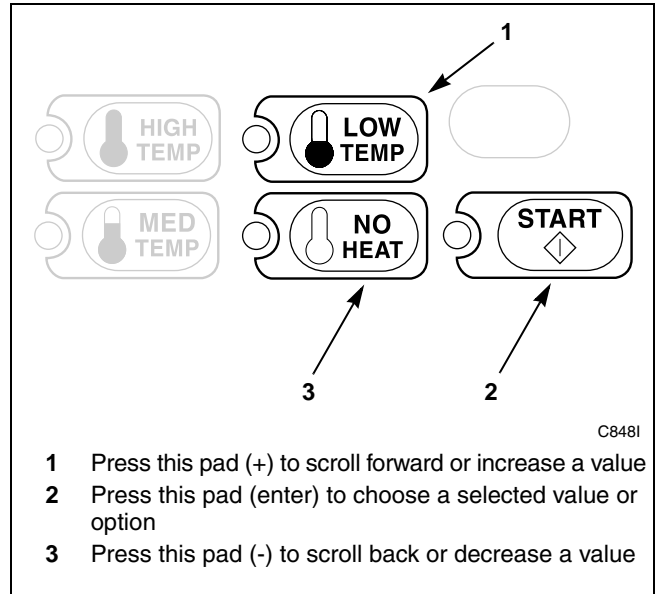

Figure 92
5. Press the LOW TEMP (+) or the NO HEAT (-) keypad to increase or decrease the current number of minutes displayed in the VFD to the desired number of minutes. Refer to *Figure 92*.
**NOTE: Special Vend A Coin #2 TopOff Minutes can be set from one (1) to 99 minutes.**